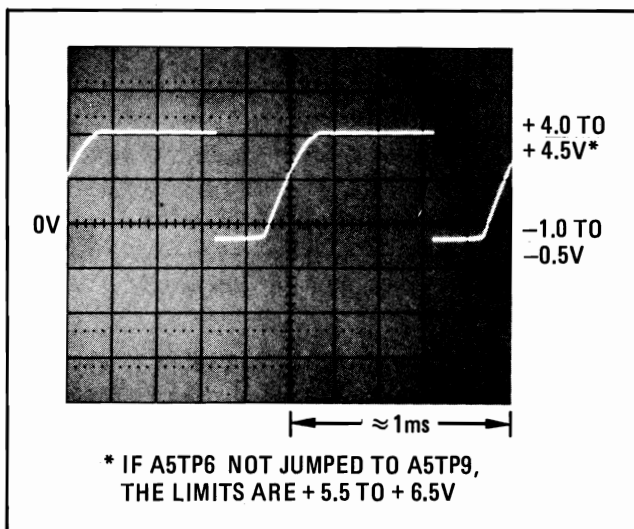

Figure 8-46. Oscillator Leveling Check Waveform
3. Connect the oscilloscope to **A5TP3 (S/H)**. The waveform should be as shown in Figure 8-46. If faulty, see Service Sheet 9 and check Sample and Hold 1.